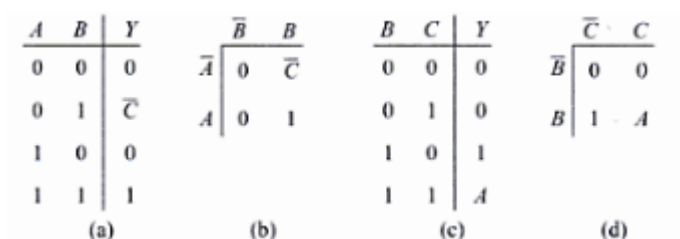

Figure 3.10: Entered variable map
- For AB=00, we find Y=0 and is not dependent on C (Figure: 3.10).